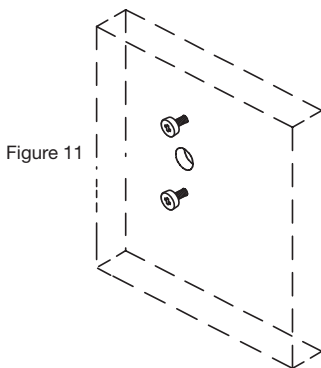

Figure 11
2. Install the two #8-32 shoulder screws (US) or the two M4-0.7 shoulder screws (Metric) on the front of the safe door to mount the Entry Device to the door (Figure 11).